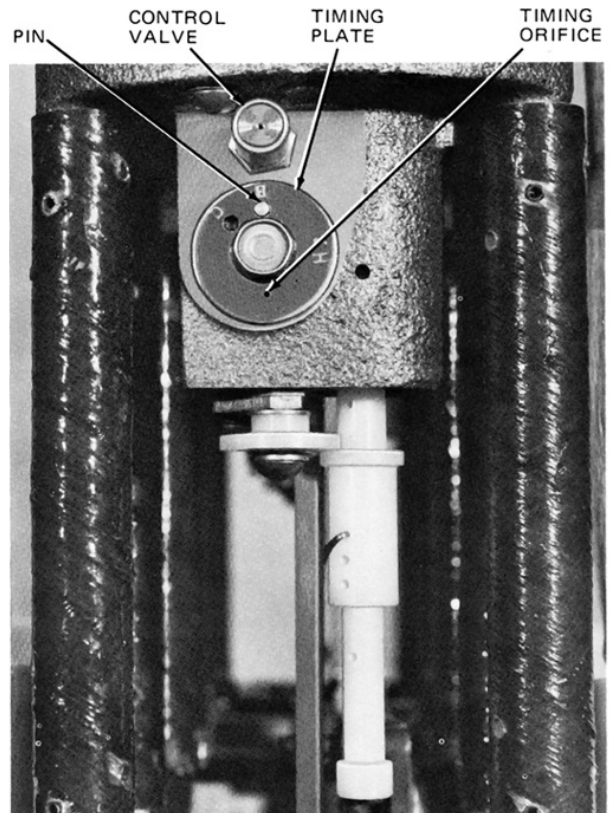

Figure 21. Timing plate
5. Manually open and close recloser three times if it is set for four operations to lockout. Observe trip rod; end of trip rod should touch lockout latch as shown in Figure 21.